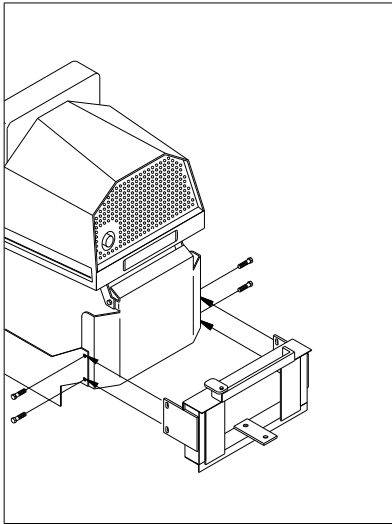

Fig. 1
1. Mount hitch (29) to tractor. Each different tractor has its own specific hitch so the look and method of attachment may be slightly different than pictured but the hitch should always be mounted with the lip upward. Many come with specific instructions in the box with the hitch. **Fig. 1**